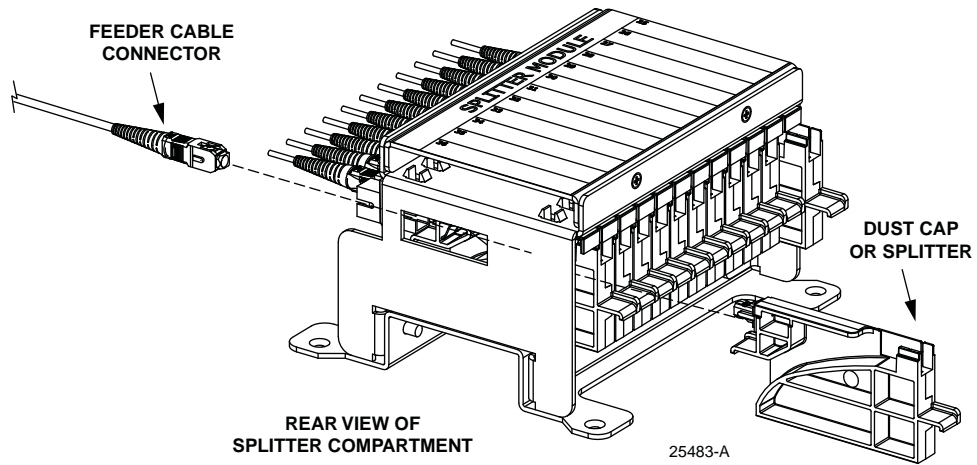

Figure 36. Removing the Feeder Cable Connector
3. Remove the feeder cable connector from the rear side of the broken adapter assembly as shown in Figure 36 and install a dust cap on the connector.